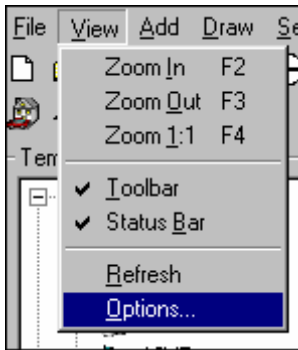
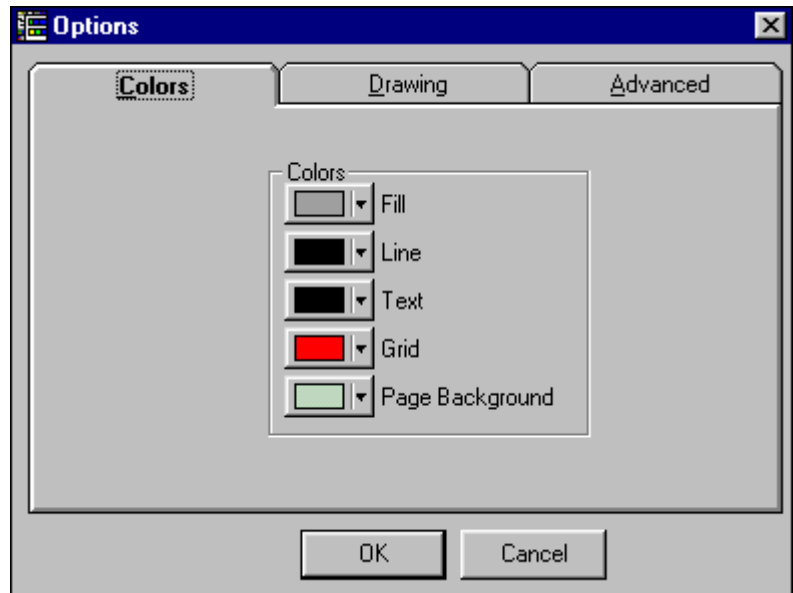
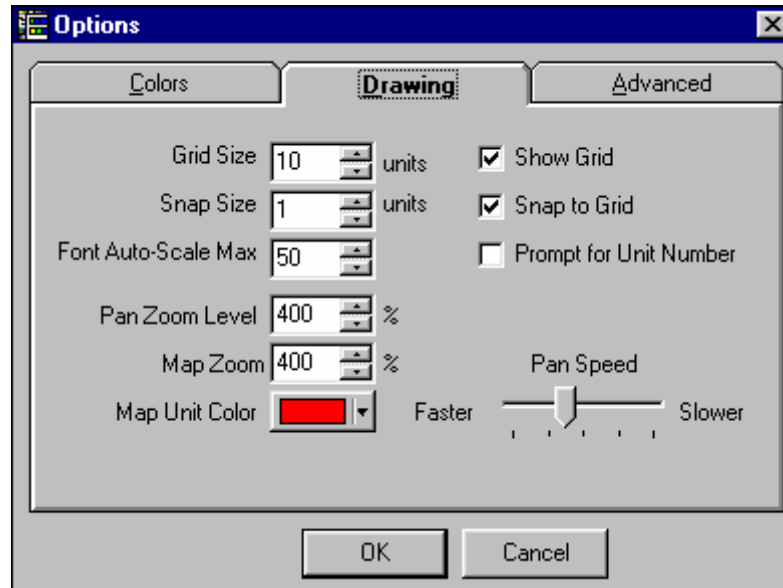

Figure 24a
Figure 24b
Figure 31
'Background Color' can be changed to suit your preference. To change the background color of the work area, select 'View > Options' (Figure 24a), and select the 'Colors' tab after the 'Option box' appears (Figure 24b). Select the 'Page Background' button and a color grid appears. Click on the desired color. The color on the 'Page Background' button will change to the color selected. Click the 'OK' button to accept the choice.
To change the 'Grid Line Color' on the work area, select 'View>Options' (Figure 24a), and select the 'Colors' tab after the 'Option box' appears (Figure 24b). Select the 'Grid' button and a color grid appears (Figure 24b). Click on the desired color. The color on the 'Grid' button will change to the color selected. Click the 'OK' button to accept the choice.
'Fill color' is the background of the units. There are two methods to change the fill color. The first method is to select 'View > Options' (Figure 24a), and select the 'Colors' tab after the 'Option box' appears (Figure 24b). Select the 'Fill' button and a color grid appears. Click on the desired color. The color on the 'Grid' button will change to the color selected. Click the 'OK' button to accept the choice. The second method is to select the 'Fill Color' button in the lower left corner of the Site Builder window (Figure 25) and a color grid appears. Click on the desired color, and the color on the 'Fill Color' button will change to the color selected. Click the 'OK' button to accept the choice.
'Line color' is the color of the borderlines of the units. There are two methods to change the line color. The first method is to select 'View>Options' (Figure 24a), and select the 'Colors' tab after the 'Option box' appears (Figure 24b). Select the 'Line' button and a color grid appears. Click on the desired color. The color on the 'Grid' button will change to the color selected. Click the 'OK' button to accept the choice. The second method is to select the 'Line Color' button in the lower left corner of the Site Builder window (Figure 25) and a color grid appears. Click on the desired color, and the color on the 'Line color' button will change to the color selected. Click the 'OK' button to accept the choice.
'Text Color' is the color of the text that will show up within a unit when it is numbered or labeled. There are two methods to change the text color. The first method is to select 'View>Options' (Figure 24a), and select the 'Colors' tab after the 'Option box' appears (Figure 24b). Select the 'Text' button and a color grid appears. Click on the desired color. The color on the 'Text' button will change to the color selected. Click the 'OK' button to accept the choice. The second method is to select the 'Text Color' button in the lower left corner of the Site Builder window (Figure 25) and a color grid appears. Click on the desired color, and the color on the 'Text Color' button will change to the color selected. Click the 'OK' button to accept the choice.
'Drawing Tab' is the location to change the grid and snap size, Panning and Map Zoom level, and Prompt for Unit Number. To pull up the 'Drawing Tab', go to View, then to Option (Figure 24a). The Option window will appear (Figure 31). 'Drawing Tab' is the location to turn on or off 'Show Grid', 'Snap to Grid' and 'Prompt for Unit Number'.
- Now select Zoom level 1:1 on the tool bar (Figure 31).